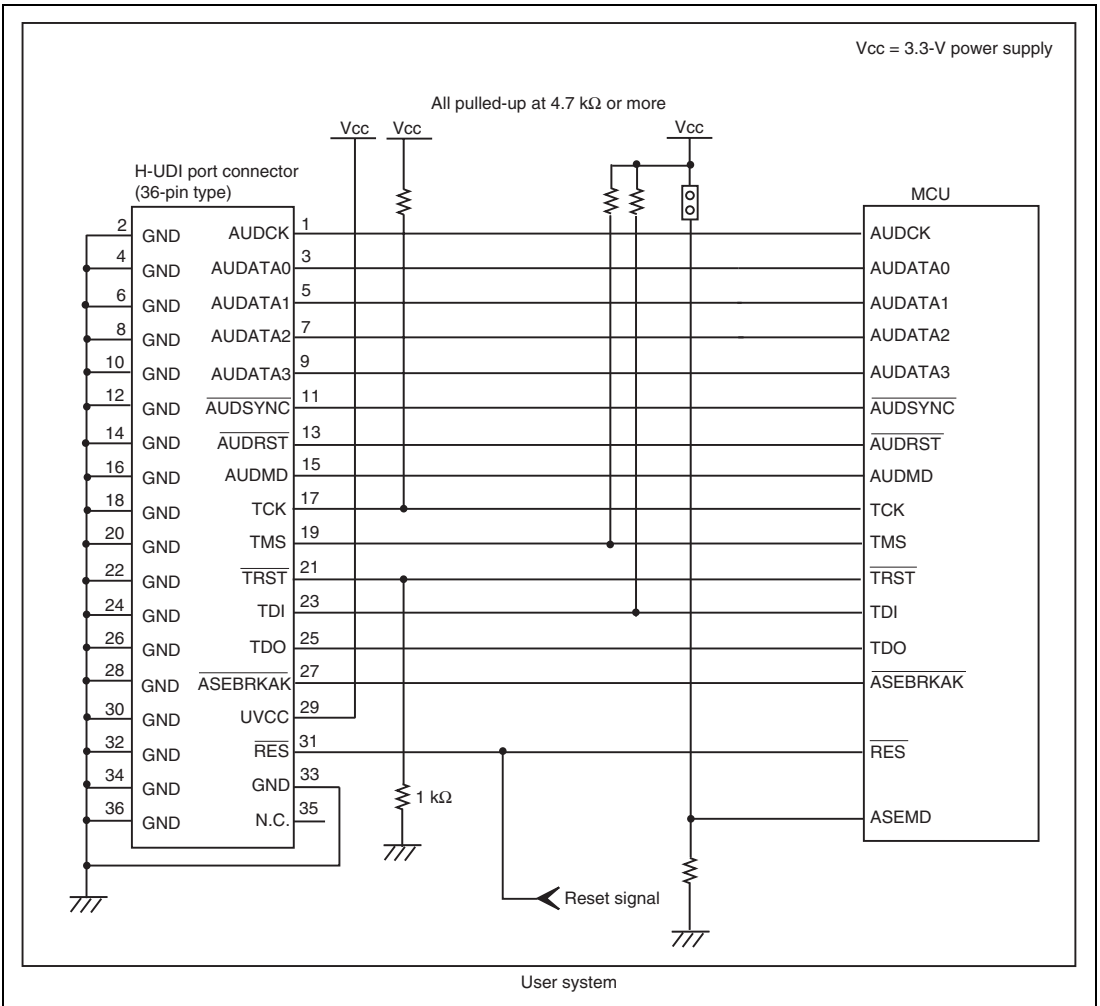
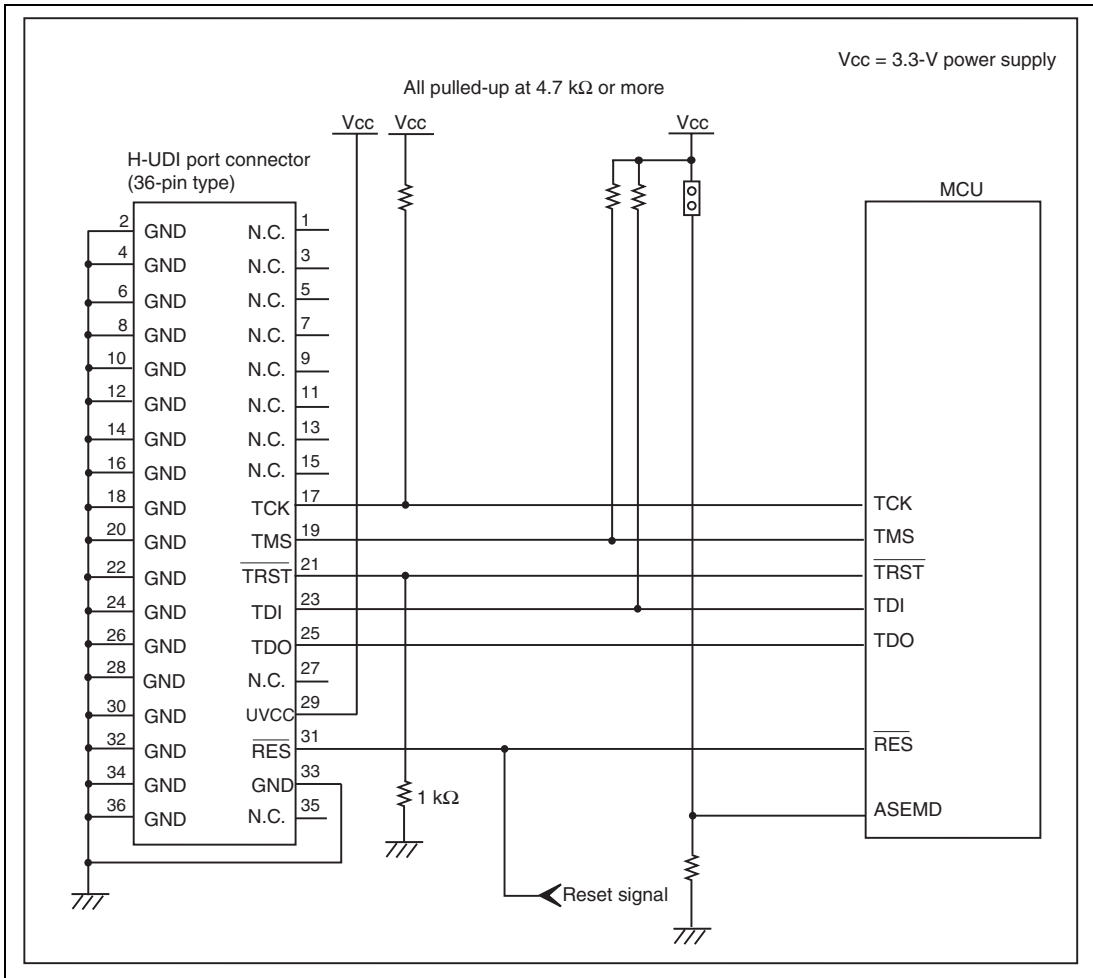

Figure 2.12 Recommended Circuit for Connection between the H-UDI Port Connector and MCU when the Emulator is in Use (H-UDI and AUD 36-Pin Type)
Figure 2.13 Recommended Circuit for Connection between the H-UDI Port Connector and MCU when the Emulator is in Use (H-UDI 36-Pin Type)
Figure 2.12 shows the recommended circuit for connection between the H-UDI and AUD port connectors (36 pins) and the MCU, and figure 2.13 shows a recommended circuit for connection between the H-UDI port connectors (36 pins) and the MCU when the emulator is in use.
- (1) When the emulator is used: `_ASEMD = 1` (ASE mode)
- (2) When the emulator is not used: `_ASEMD = 0` (normal mode)
7. The resistance values shown in figure 2.12 and figure 2.13 are for reference.